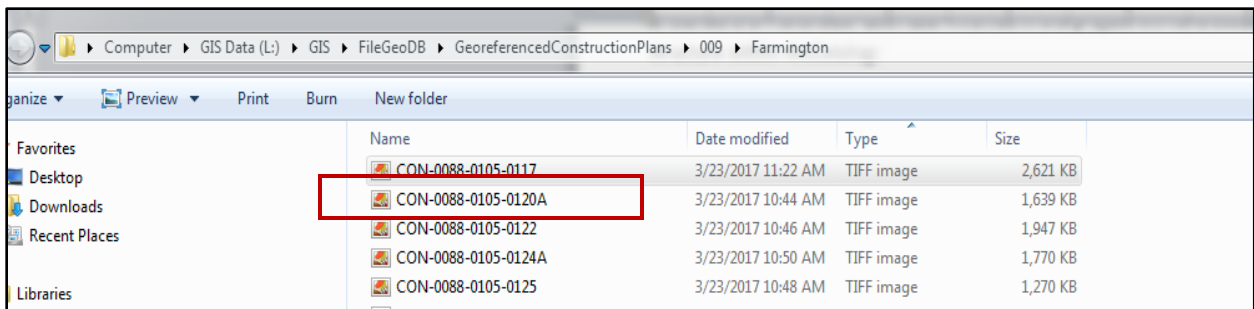

Figure 23. Nomenclature for extracted plans.
- Save relevant plans using the following nomenclature of “CON-8 Digit Project Number-4 Digit Sheet #” (e.g., CON-0088-0105-0120A, shown in Figure 23, below).